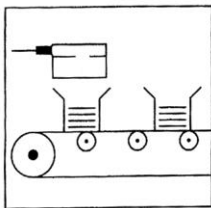

Figure 6-10 Symbol for question 15.
15. Figure 6-10 illustrates a typical application for a 15. _____